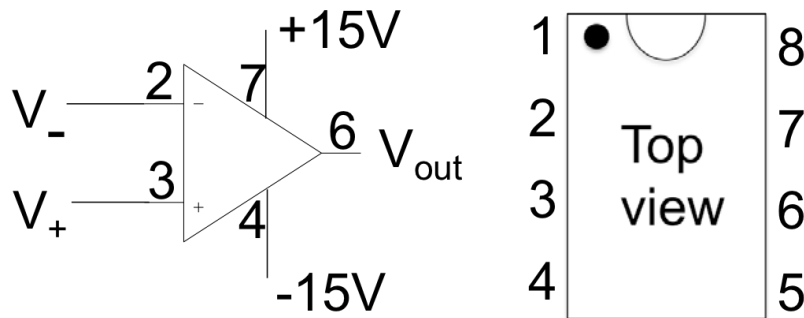

Figure 3. LF356 pin-out and schematic.
Step 1	<p>Op-amp Tips</p> <ol style="list-style-type: none"> a. This experiment will use both +15V and -15V to power the LF356 op-amp. Turn off the power while wiring your op-amp. Everyone makes mistakes in wiring-up circuits. Thus, it's a good idea to check your circuit before applying power. Fig. 3 shows a pin-out for the LF356 chip. Familiarize yourself with the layout. <p>The following procedure will help you wire up a circuit accurately:</p> <ol style="list-style-type: none"> 1. Draw a complete schematic in your lab book, including all ground and power connections, and all IC pin numbers. Try to layout your prototype so the parts are arranged in the same way as on the schematic, as far as possible. 2. Measure all resistor and capacitor values before putting them in the circuit. Be care with unit prefixes. It is easy to mistake a 1 nF capacitor for a 1 μF one. (You don't need to know the precise values of the bypass capacitors, so there is no need to measure them.)